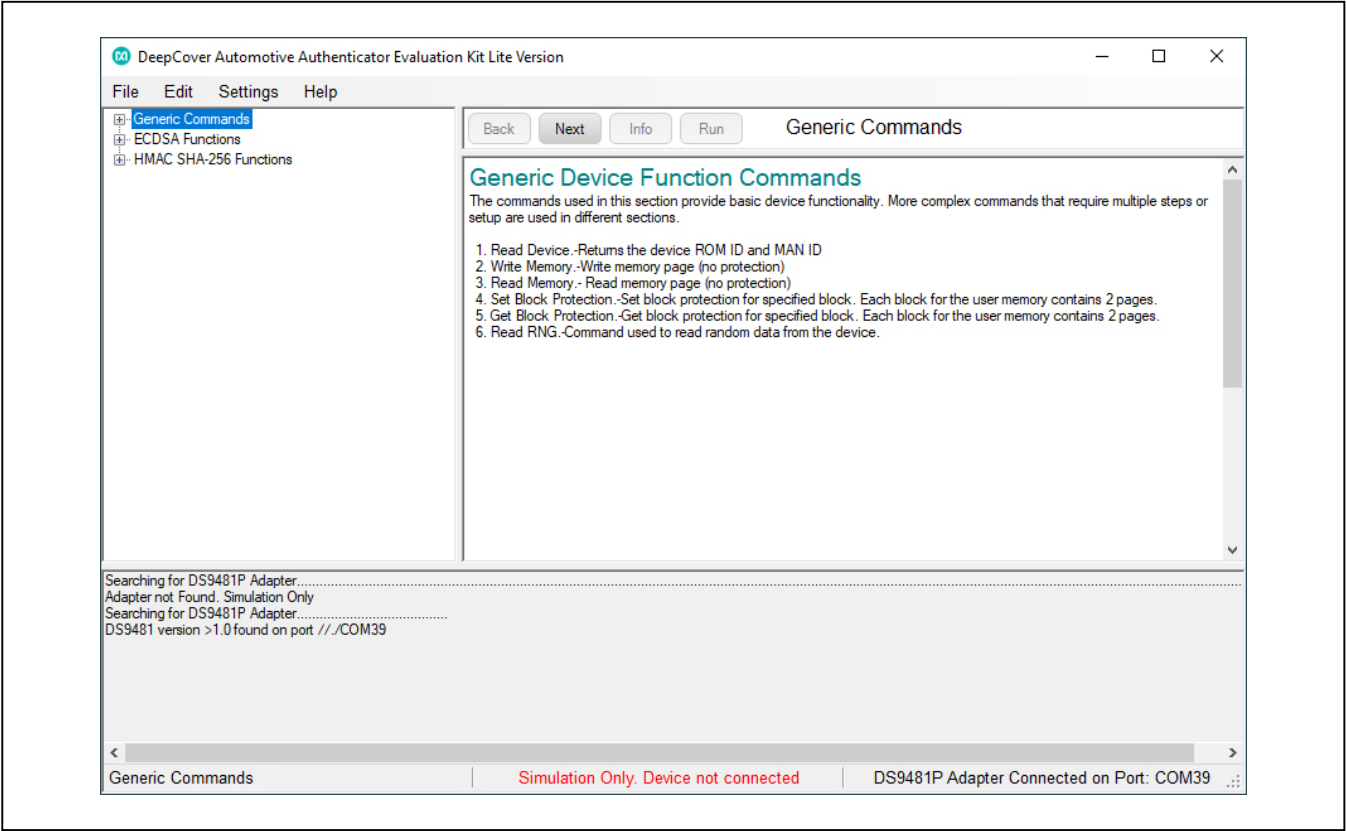

Figure 8. DS28E40 EV Kit Program (Default View Upon Opening)
- 7) The DS28E40 EV kit program opens and automatically connects to the COM port. This can be verified in the lower right corner of the window, as shown in Figure 8.